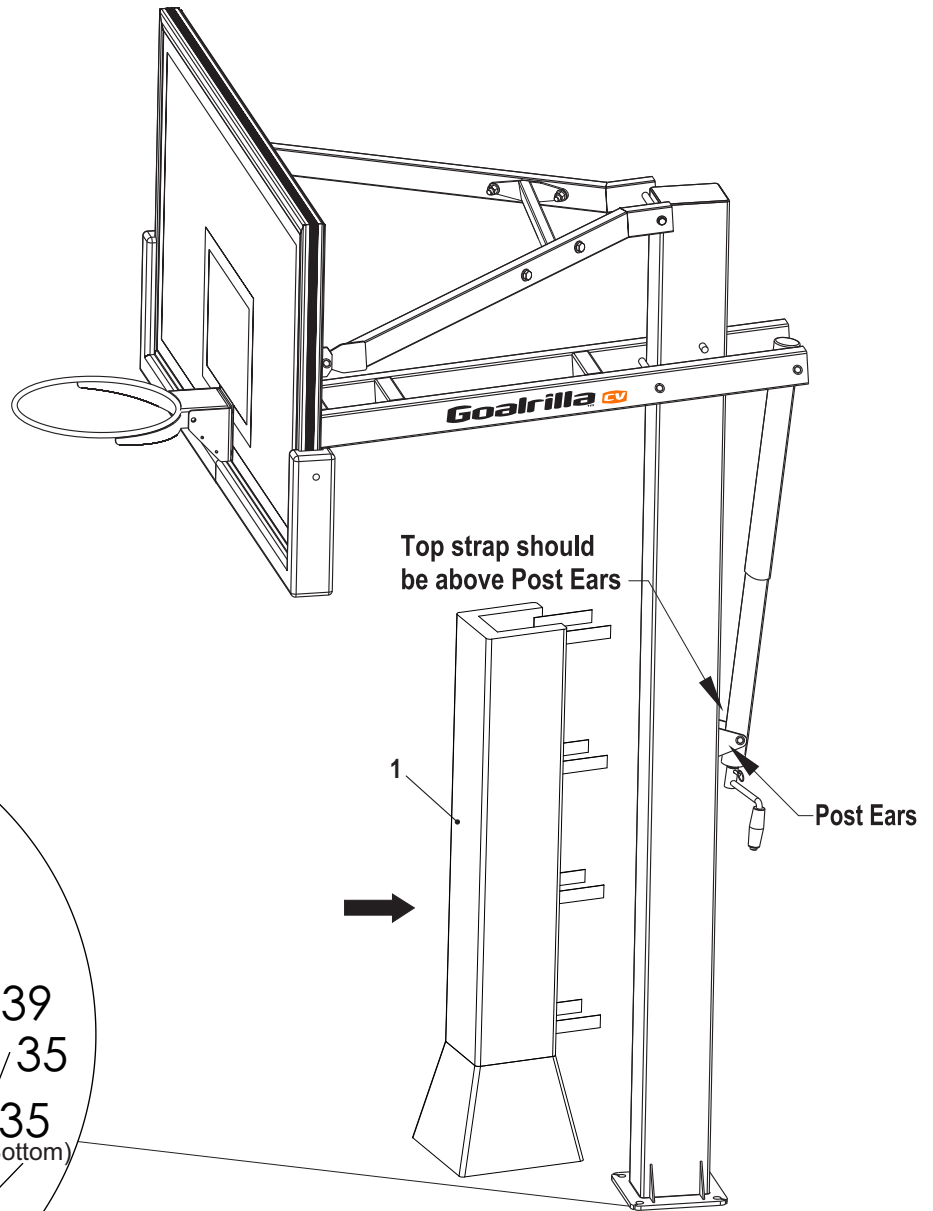

Figure 15
29. Secure Post Pad (#1) to front of pole by wrapping straps around the back pole and sticking to velcro on opposite side of Pad. Top Post Pad straps should be above Post Ears. See Figure 15.